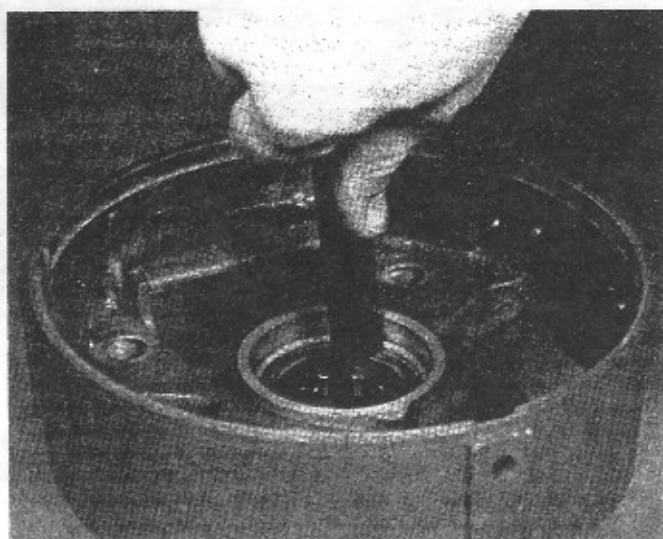

Figure 27
- 3.2 Press roller bearing in housing so outer race is flush with insert in housing and apply approximately 1 level tablespoon of Chevron SRI-2 grease to bearing. Fig. 27.